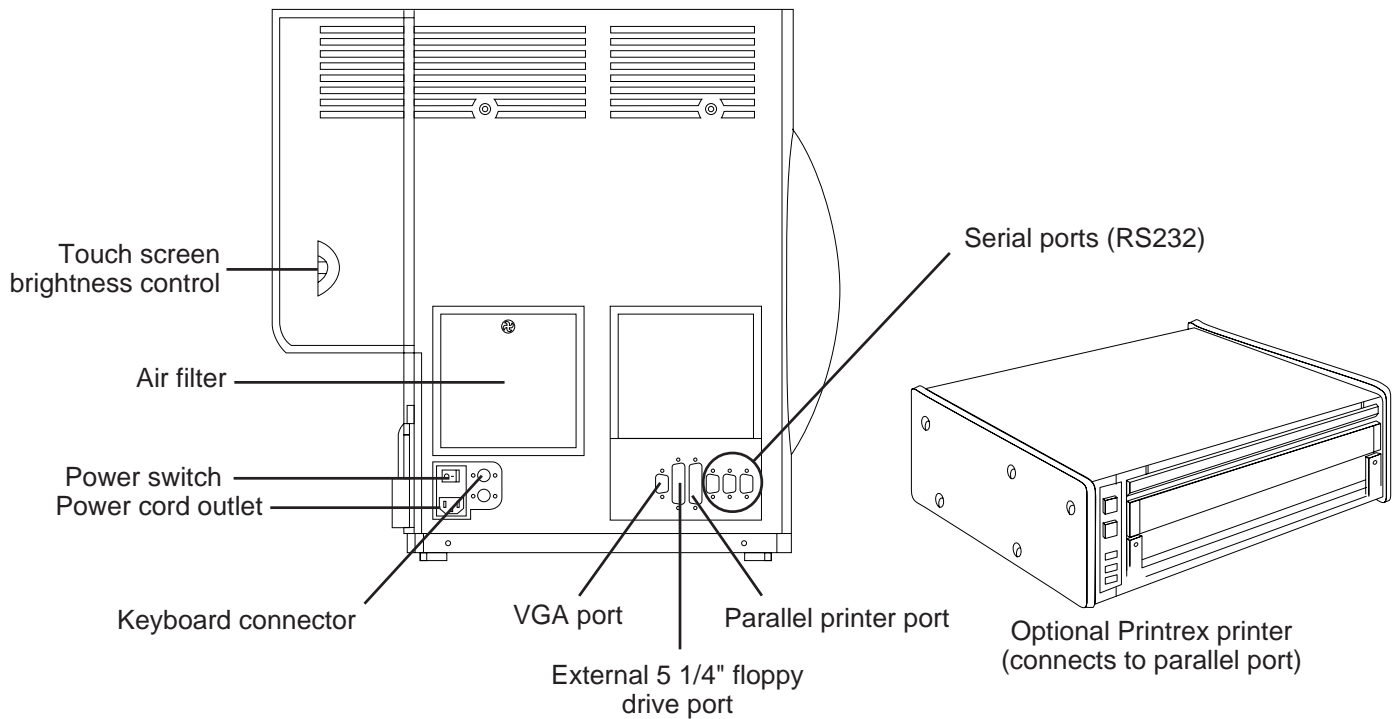
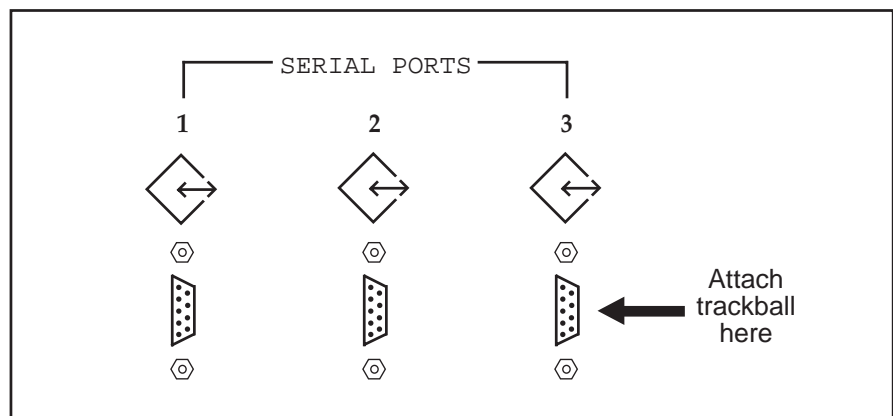

Figure 1.4: The HFA II – Rear View
Figure 1.7: Serial Port Connection for the Trackball (back of HFA II)
1. With power off to the table and HFA II, connect the printer interface cable to the parallel port on the HFA II. Refer to Figure 1.4.
1. With power off to the HFA II, connect the interface cable to the respective parallel port on the HFA II (refer to Figure 1.4) and the printer (refer to Hewlett-Packard printer manual).
The HFA II supports an external keyboard. The keyboard is a standard feature of the Model 750 and is optional for all other HFA II models. The keyboard plugs into the back of the HFA II near the power switch (refer to Figure 1.4 for the location of the plug).
The serial trackball is connected to Serial Port 3 on the back of the HFA II. You may need to use an adapter (a DB 9 male-to-male gender changer). Adapters can be purchased at most computer or electronics stores. Humphrey Systems does not sell these adapters. Figure 1.7 indicates the proper serial port on the back of the HFA II where the trackball connects. Also see Figure 1.4 for additional help locating the serial ports. **The HFA II must be turned off when attaching or removing any input device.** See Section 2 for use of the trackball.
Your HFA II allows you to connect an external VGA monitor. Commands issued with the keyboard and trackball/mouse can be seen on the external screen. Touch screen capability is not available on the external monitor. The HFA II touch screen remains available for use when using the external monitor. Output to the external monitor will display in black & white, even when using a color monitor. Connection of the VGA monitor is made to the port found on the back of the HFA II (see Figure 1.4 for location).
1 Connect printer cable to Printrex printer and HFA II at rear of unit (see Figure 1.4: Parallel Printer Port).